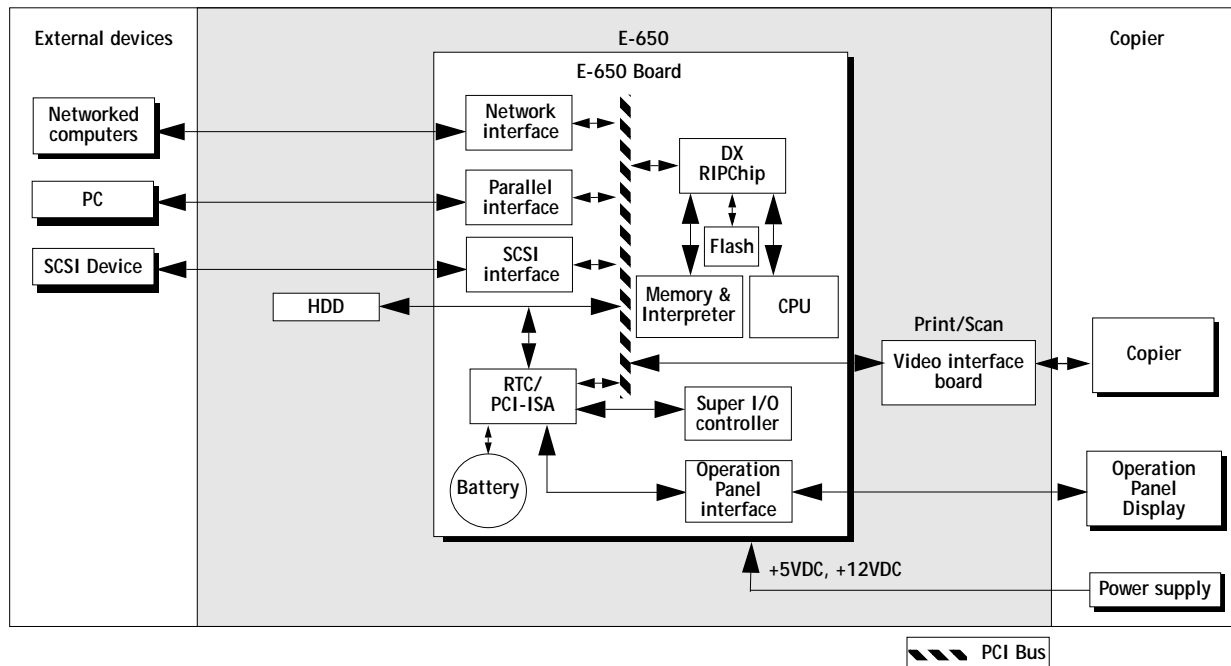

FIGURE 5-1 E-650 functional diagram
- The E-650 is a built-in print server for the copier and is generally part of a configuration like the one shown in Figure 5-1.